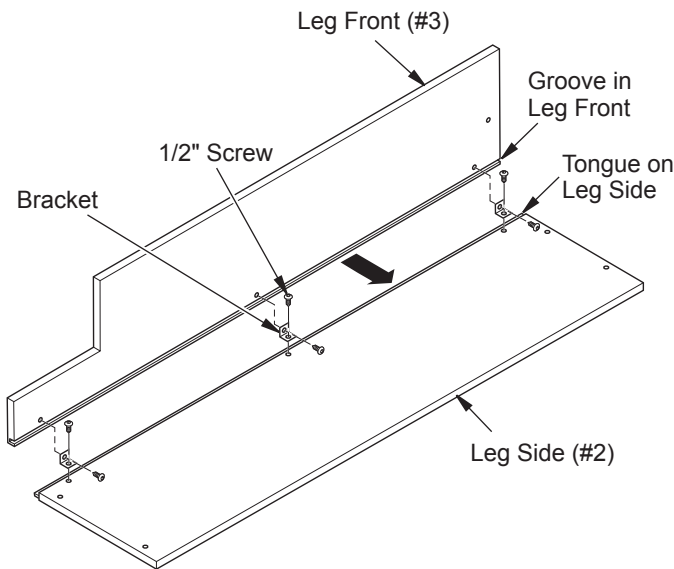

Figure 1 - Right and Left Leg Assemblies
1. Lay right side panel (#2) face down on a soft surface to avoid marking finish. Attach three brackets with 1/2" screws to bottom of right front leg (#3), leaving screws slightly loose. Face brackets out toward tongued side (see Figure 1). Place right front leg over right side (#2) matching groove in leg to tongue on side, as shown in Figure 1. Align threaded holes with brackets on side. Start three 1/2" screws through brackets. Align bottom of side and leg assembly so they are flush with each other. Hold these pieces securely in alignment while tightening (but not over tightening) screws.